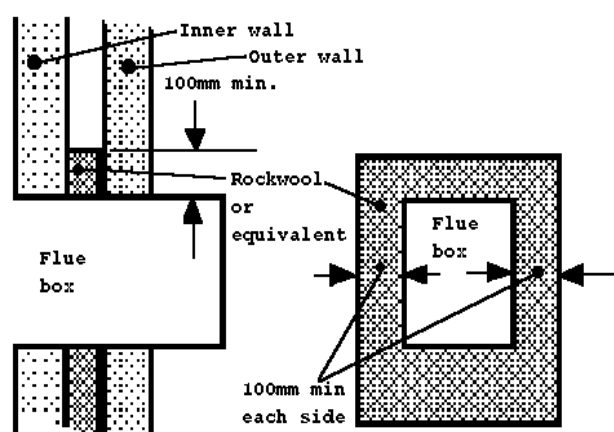

Figure 7 Cavity sealing
5.2.6 The cavity should be sealed where the flue box hole has been cut. We recommend filling fully across the cavity with Rockwool or equivalent to at least 100mm above and each side of the opening. Fill at the bottom of the opening to the level of the hearth/fireplace floor. See figure 7.